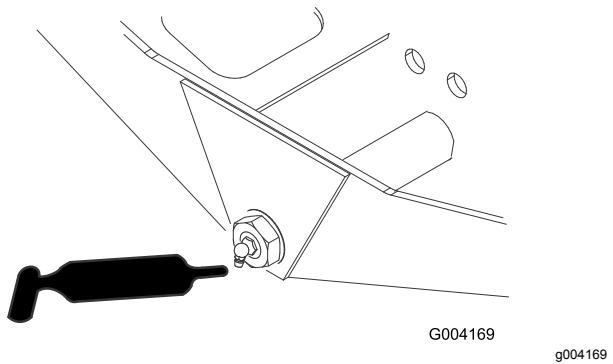

Figure 41
- Axle-steering pivot (1) (Figure 41)